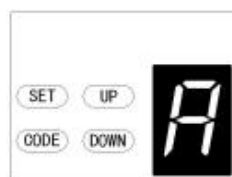

Fig.23
- 22.3 Momentarily press the “Up” button until “A” is displayed on the LED screen. (Fig.23)